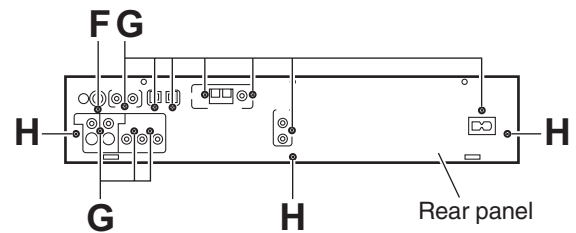

Fig.8
3.1.4 Removing the rear panel (See Fig.8)
Remove the rear panel as required. (See Fig.8.)